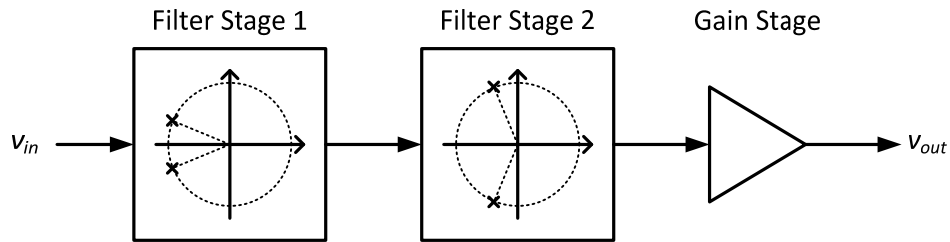

Figure 2. Three-stage filter implementation.
P2.2 The 4th-order filter will be implemented out of two Sallen-Key filter stages that are cascaded (connected in series), followed by a gain stage, as shown in Figure 2.
- c) You will now wire the three stages together in series, as shown in Figure 2. It may help to copy the cellview to preserve your work from part c). To do this, open the *Library Manager*, select the *prelab2_3b* cell name so that it is highlighted and right-click on it. Select the *Copy* function from the pop-up menu. Give the copy a new cell name of *prelab2_3c* and click OK.
- L2.4** Connect the three stages together as shown in Figure 2. Connect the input of the first filter stage to the function generator configured as a sine wave, 100mVppk, and high-Z mode. Using both channels on the oscilloscope, simultaneously measure the input and output voltages. Record the input and output amplitudes from 1kHz to 1MHz in logarithmic steps of 3 points per decade. Additionally measure the 3dB frequency. If there is peaking in the frequency response, measure the frequency of the peak and the input and output voltages at that frequency.